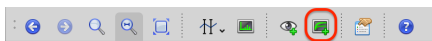

Figure 17: Hold trace symbol in scope toolbar
- 3 Hold the traces in the scopes by clicking the hold button in the scope toolbar, shown in Fig. 17. If the toolbar is not visible in the scope window, enable it from **View + Toolbar**.